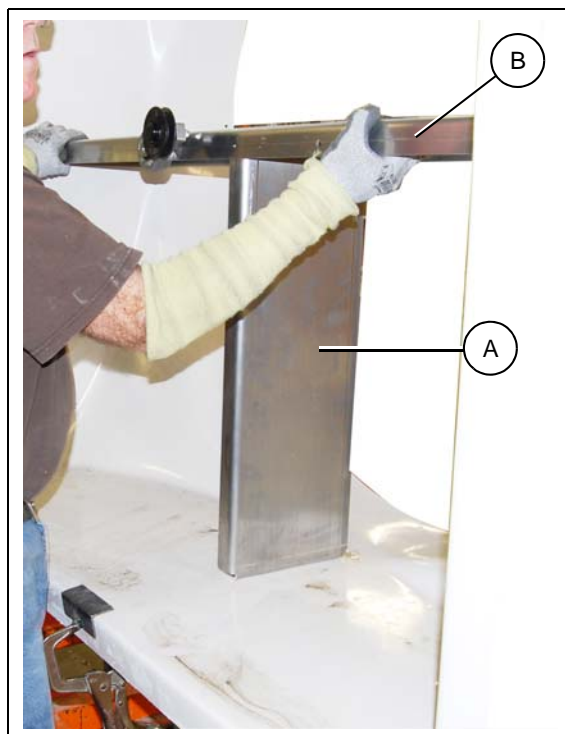

Figure 8D
1. Align the motor mount leg (A) with the bottom holes in the fan housing.
2. Align the bearing plate (B) with the holes in the sides of the fan housing. (See Figure 8D.)